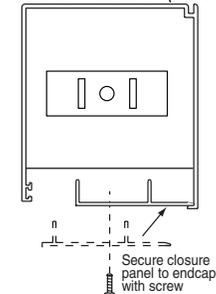

Figure 6
- ① Snap endcap covers onto endcaps.
- ② Place endcaps into back/top portion of wall/ceiling headbox or into pocket extrusion of pocket headbox. Using pre-drilled holes in endcaps, mark the headbox for drilling.
- ③ Drill holes in back or top, depending on whether you will be mounting the headbox to the wall, ceiling or pocket.
- ④ Attach endcaps and wall/ceiling headbox back/top or pocket headbox extrusion to wall, ceiling or pocket using mounting hardware appropriate for site conditions.
- ⑤ Install shade (see "With Endcaps" section above).
- ⑥ Attach headbox fascia or pocket closure (see Fig. 6 for pocket closure). **Surface Headbox fascia is not fully seated until it clicks into place on both ends. Once in place, check for secure fit. If not secure, secure with appropriate fastener (not included).**